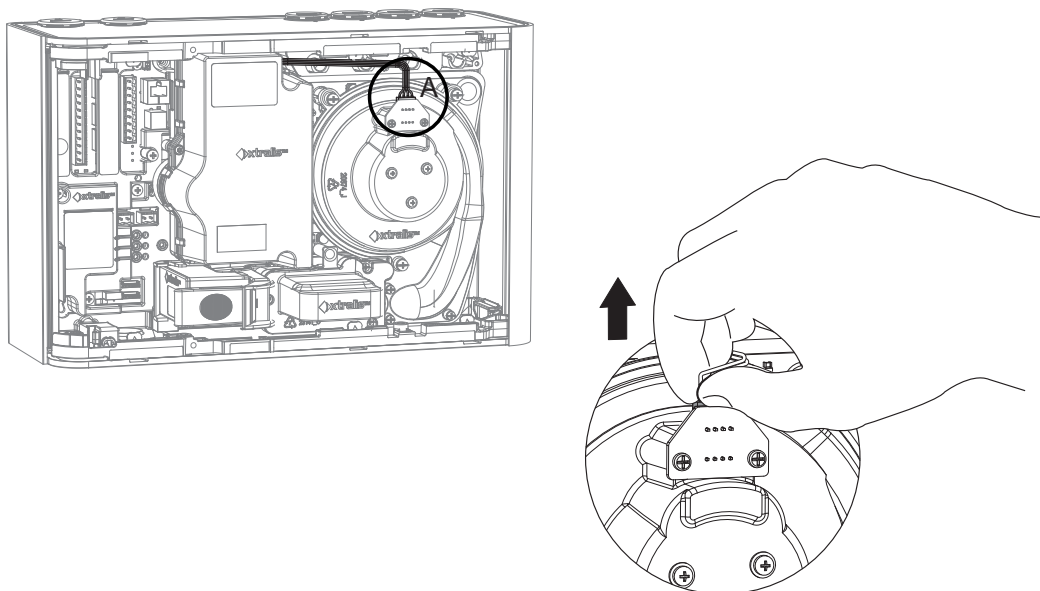

Figure 7-10: Disconnect the aspirator cable
3. Disconnect the aspirator cable (A) (Figure 7-10).